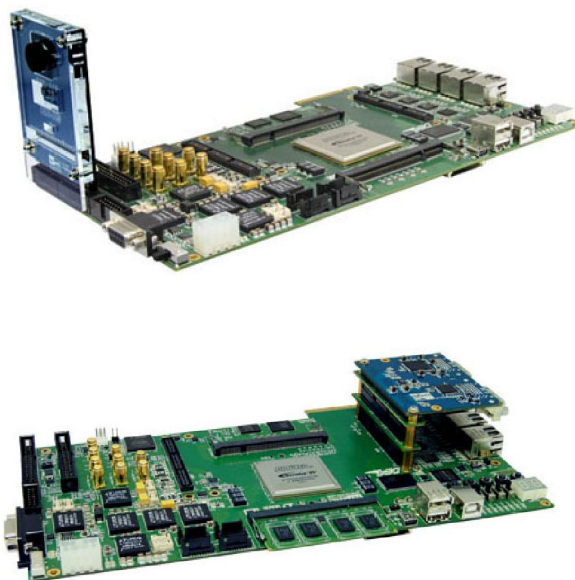

Figure 3.2. The Connection Setup for DE4 users
1. Ensure the connection is made correctly as shown in Figure 3.2. Make sure the D5M is connected to **JP4 (GPIO 1)** and DVI daughter card is connected to **J20 (HSMC PORT A)** of the DE4 board with two **THCB-HMF2** interface cards which are bundled in the DE4 kit.